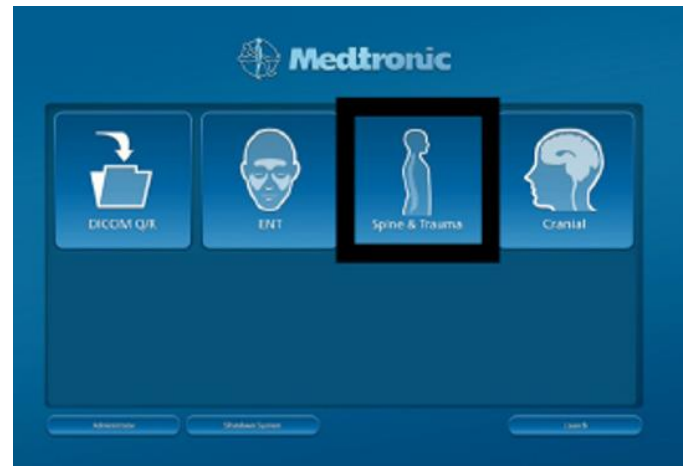

Figure 1
- Select **“SPINE & TRAUMA”** to start setup for spine navigation (Figure 1)